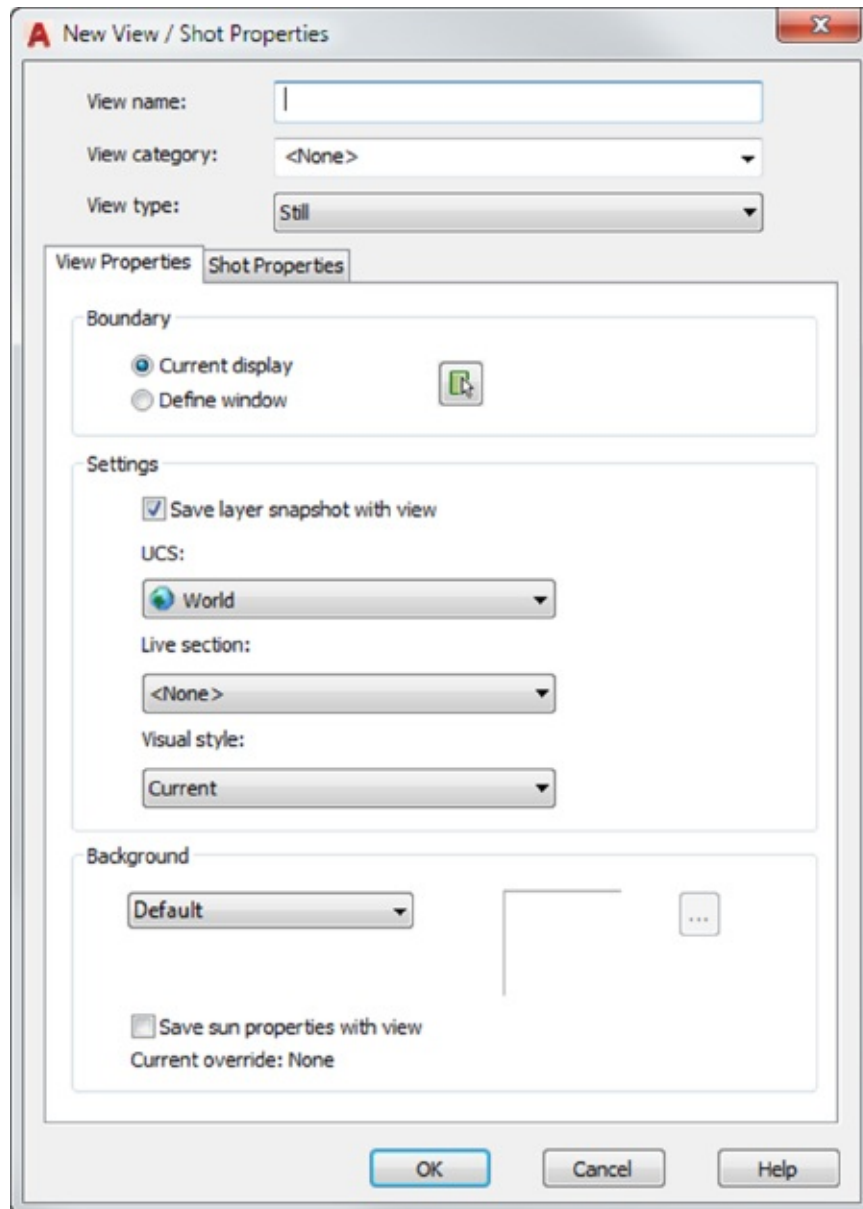

FIGURE 7.5 The New View / Shot Properties dialog box
2. Make sure that the Current option is selected in the list to the left, and then click the New button to open the New View / Shot Properties dialog box (see Figure 7.5). You'll notice some options related to the User Coordinate System (UCS) plus an option called View Category. You'll get a chance to look at the UCS in Chapter 20 and Chapter 21, "Using Advanced 3D Features." The View Category option relates to the Sheet Set feature described in Bonus Chapter 7, "Keeping a Project Organized with Sheet Sets," available at www.omura.com/chapters. Other options, including Visual Style, Background, and Boundary, give you control over the appearance of the background and layout of a saved view. For now, you'll concentrate on creating a new view.